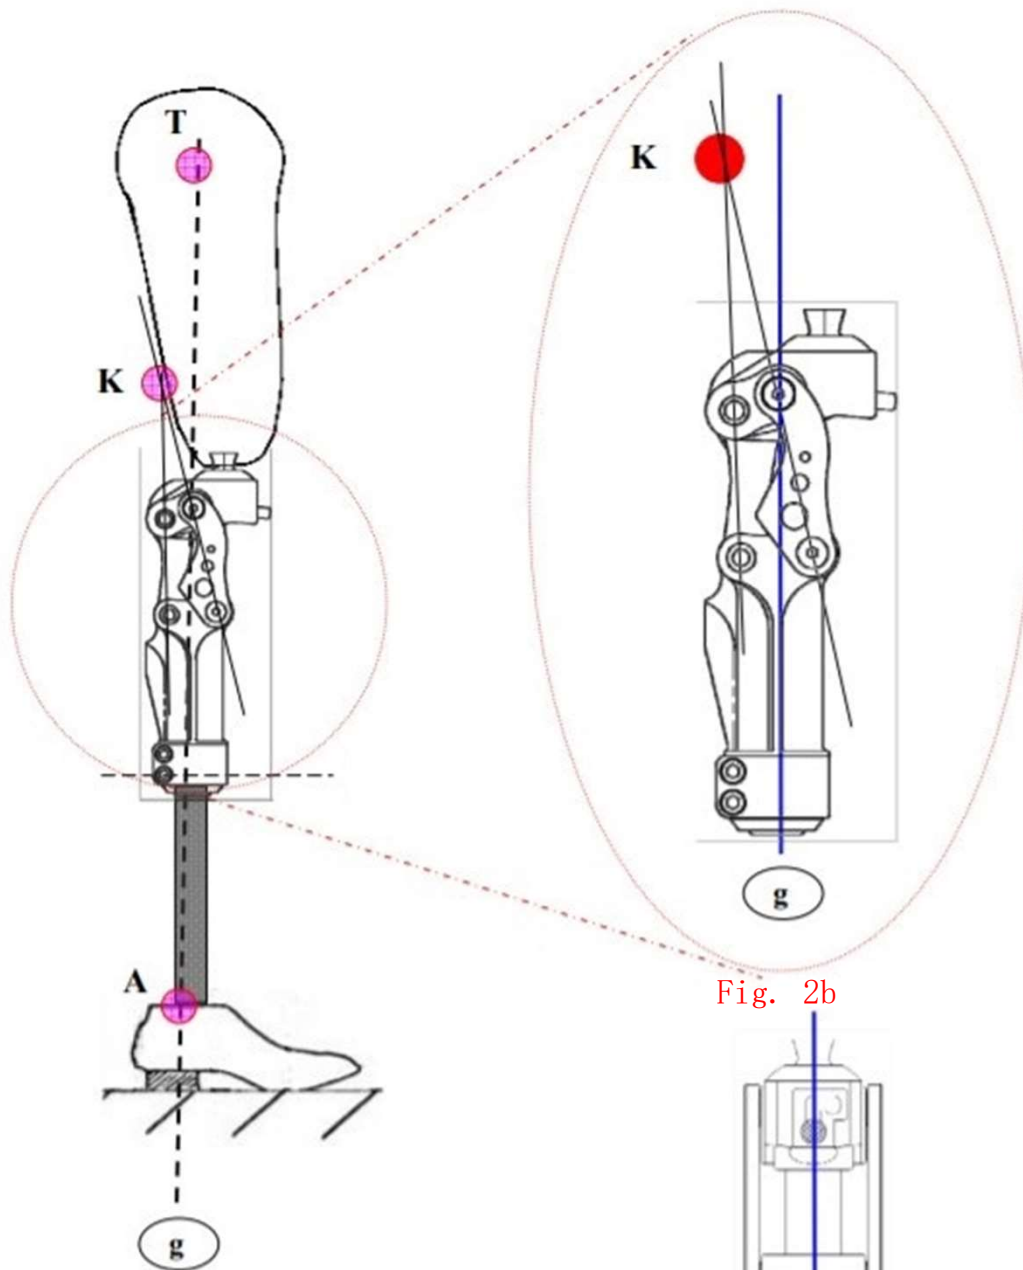

Fig. 2a
Note: 4-bar knees inherently are very stable due to the geometry built into each design. This is commonly referred to as the Instant Knee Center (IKC). The IKC point when doing bench alignment, will fall behind the traditional TKA line that we will reference. (Fig. 2a,2b) Tg line in Fig. 3 is ideal placement, but in certain instances, it may be necessary to accommodate placement anteriorly (0 to 10mm). The Tg line is referencing a moving A/P weight bearing line, so it could be slightly anterior or neutral.
a) With prosthesis assembled, taking into account hip flexion contractures, abduction, Line Of Progression, and toe out (Fig.2a), the TKA plumb line should pass through the knee center (center of proximal/anterior pivot Fig.2a, 2b) and in front of the K point (IKC).
d) With prosthesis donned, the weight line for Sagittal or A/P plane should have the plumb line passing ideally through the knee center (proximal anterior pivot), and be perpendicular to the ground. (Fig. 2a, 2b)